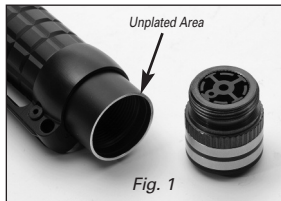

Fig. 1
1. Tighten tail cap – make sure unplated area of barrel is clean. See fig. 1